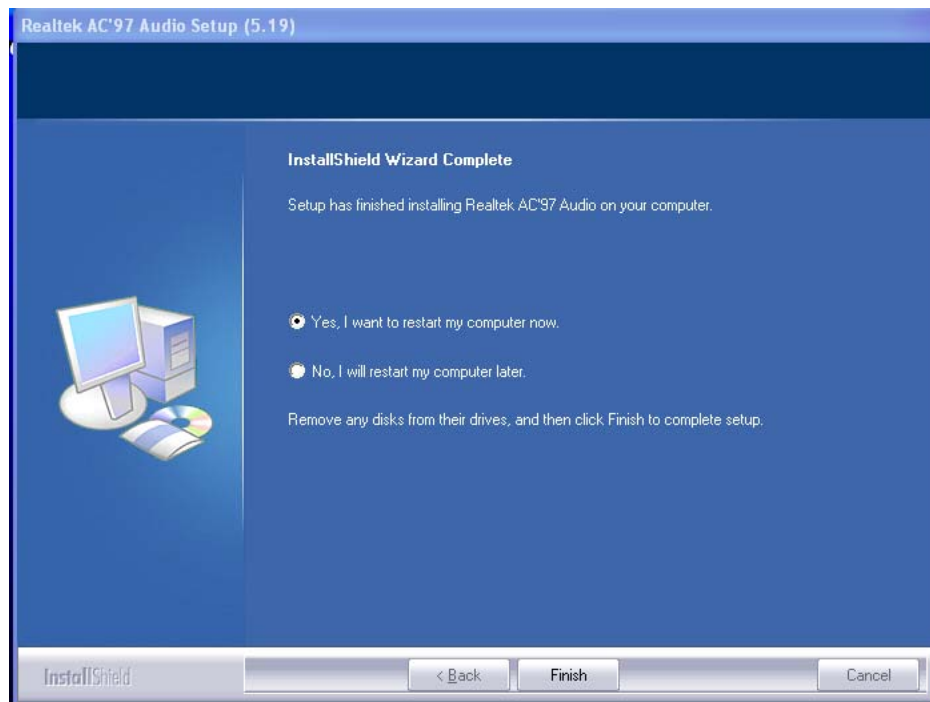

Figure 7-29: AC'97 Driver Installation Complete
Step 8: When the driver is installed, the driver installation finish screen in **Figure 7-29** appears.